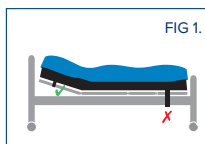

FIG 1.
- **Mattress only** - for profiling beds, it is essential that straps are secured around the movable sections of the bed frame - damage will be incurred when profiled if secured to fixed parts of the frame (FIG 1).